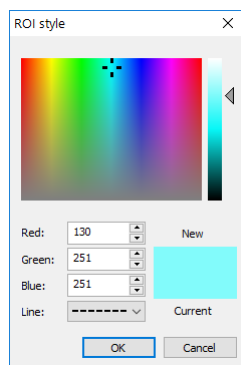

Figure 373 – ROIs style dialog
3. Select the desired color and line style in the dialog (see Figure 373).